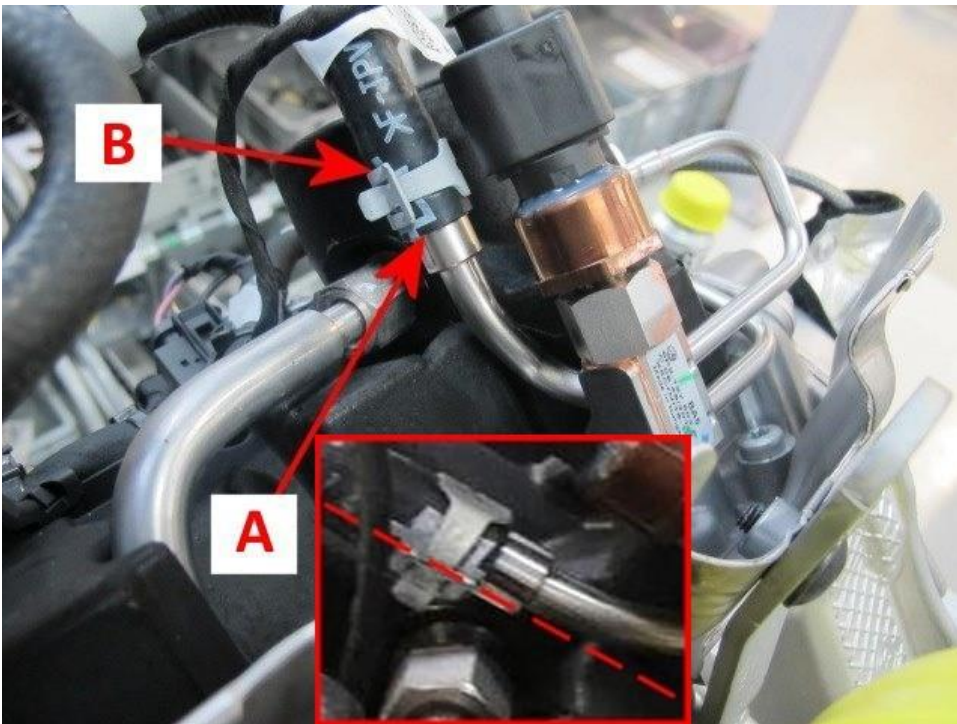

Figure 6
NOTE: For photographic purposes only Figure 6 was taken with the engine removed
6) **IMPORTANT:** Referring to Figure 6 - Ensure the hose is fully fitted up to the boss on the metal pipe (Point A)